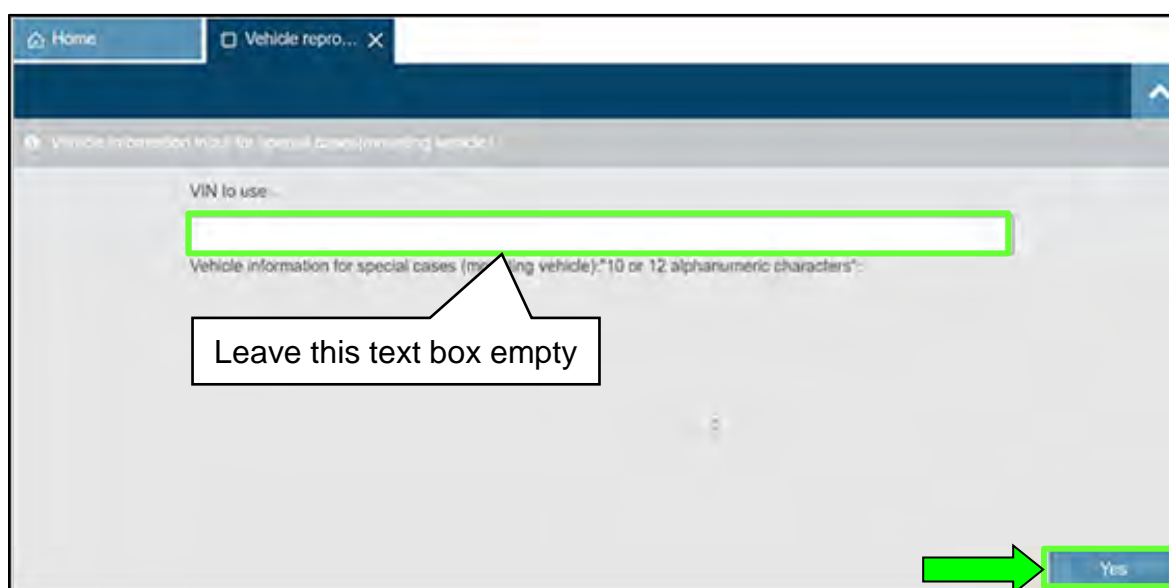

Figure 12
13. If the screen shown in Figure 12 is displayed, continue to step 14. If the screen shown in Figure 12 is NOT displayed, skip to step 17 on page 11.